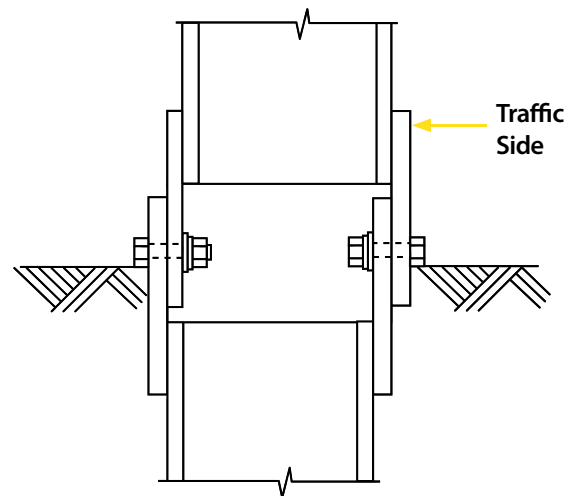

Figure 1: Orientation of HBA Post
- Install the HBA top post by aligning the holes of the ears on the HBA top and bottom posts. Refer to Figure 1 for the correct orientation